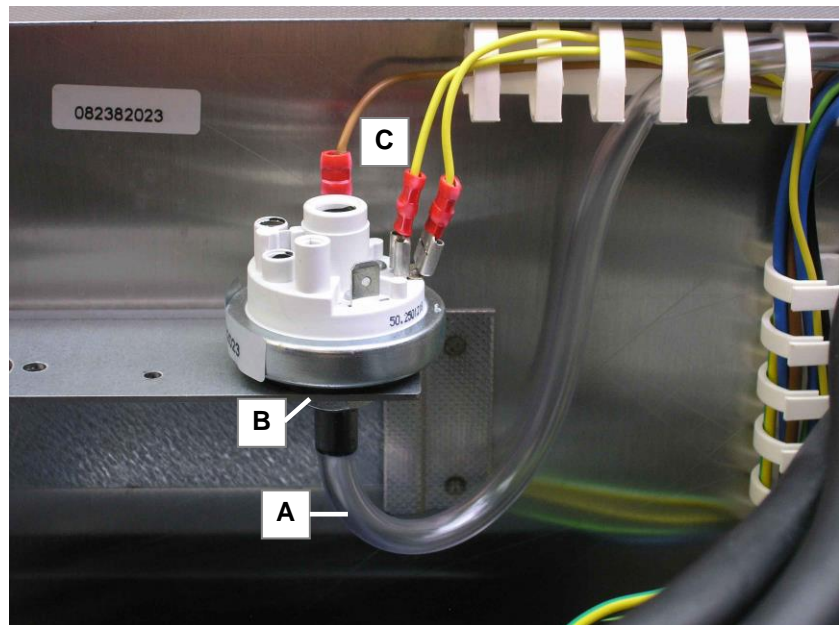

Fig. 6.8 Safety pressure switch mounted
2. Pull the gas hose (*fig. 6.8.A*) off the safety pressure switch.
6. Check again if all electric connections are positioned correctly (*see fig. 6.8.C*).